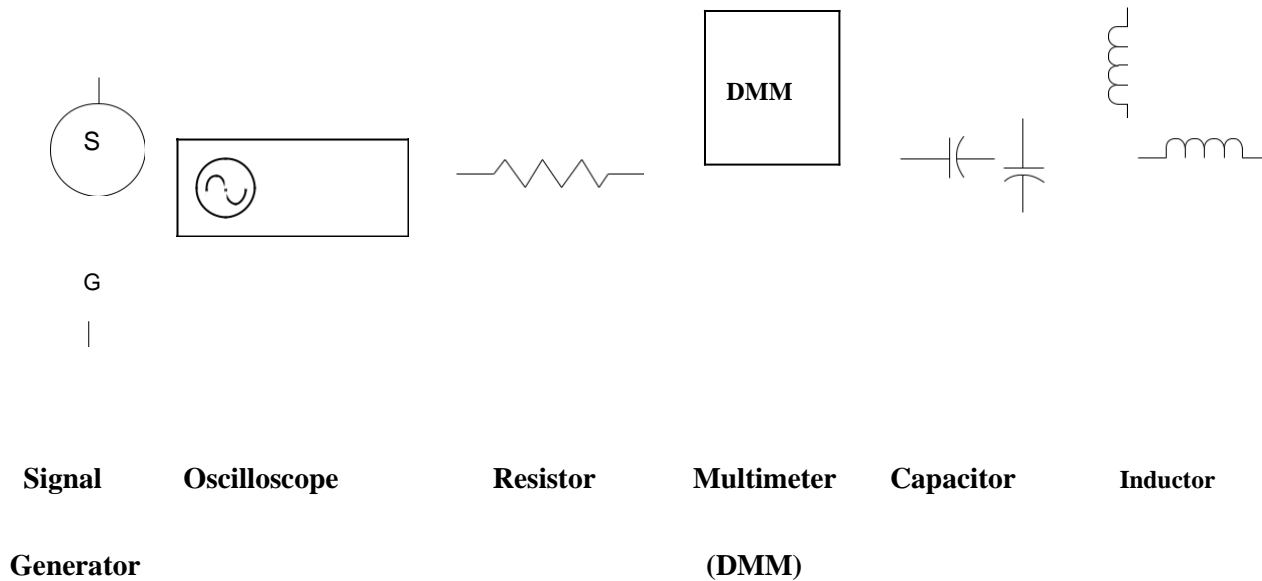

Fig. 15. Special Symbols Required for Drawing Circuits
7.1. Draw labeled diagrams for your three circuits (see Fig. 15 for symbols).